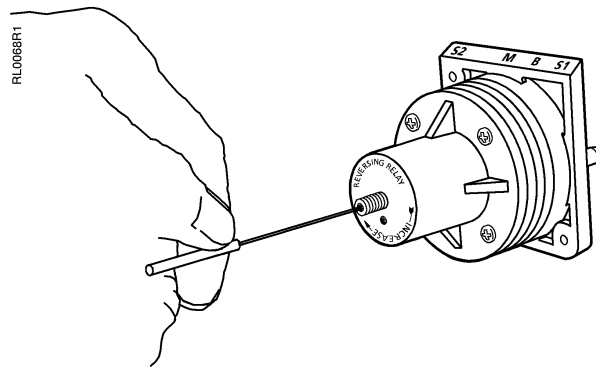

Figure 4. Adjusting the Spring.
2. Insert a 5/64-inch (2 mm) hex Allen wrench to adjust the spring, as shown in Figure 4.